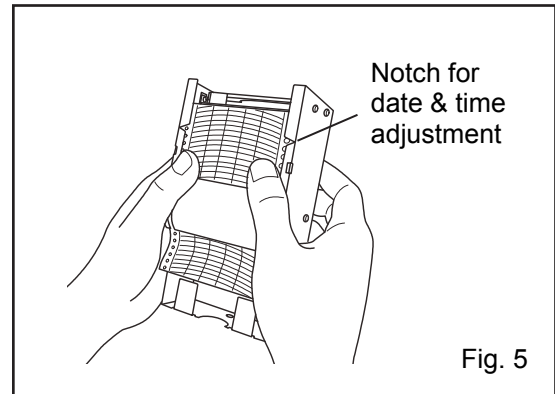

Fig. 5
5. Slide the recording paper along the guide plate so that the recording paper will not be forced out of the date & time adjustment slot. See Fig. 5.
3. Set a ink pen in the pen holder properly keeping the pen holder with the left hand. (Fig. 5)